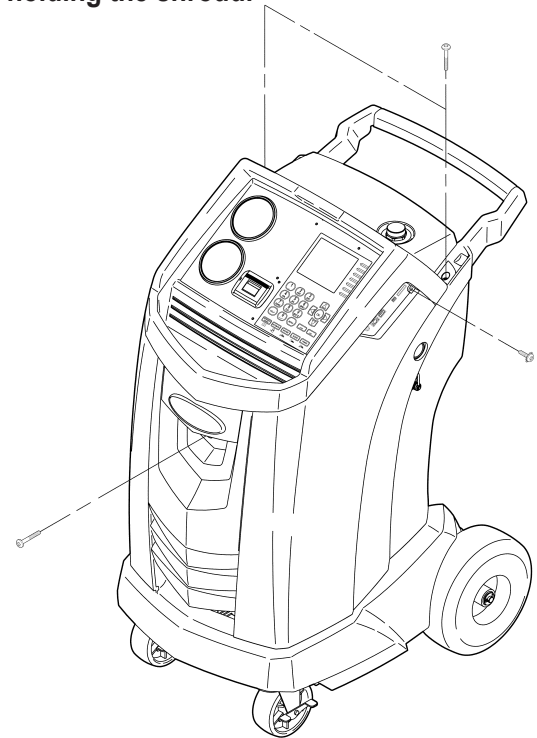

Figure 12
3. Remove the four screws shown in Figure 12, and remove the shroud.